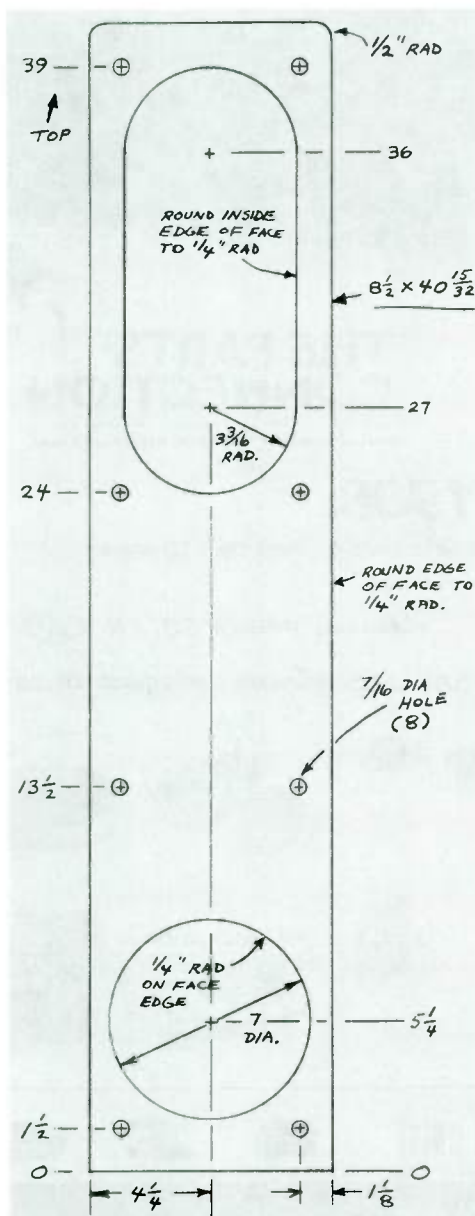

FIGURE 9: Grille board.
13. Drill mounting holes for the grille fasteners (see Fig. 9):